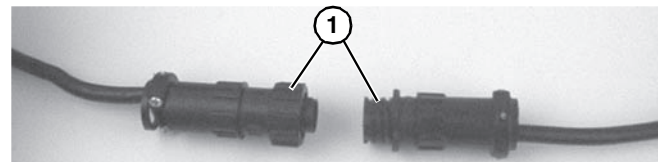

Figure 15
1. For DC variable speed motor, unplug motor cord at disconnect (**Figure 15, item 1**).